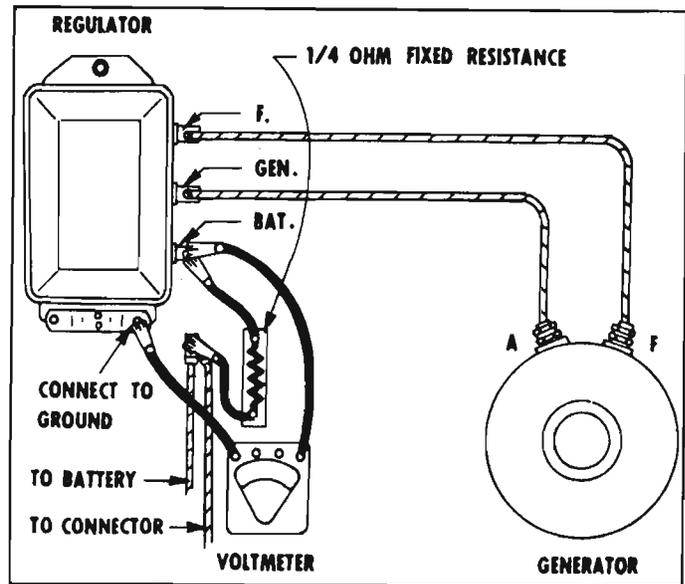

Fig. 8-6—Checking Voltage Regulator Setting
1. Connect a 1/4-ohm fixed resistor (approximately 25 watts) into the charging circuit at the BAT terminal of the regulator (fig. 8-6).